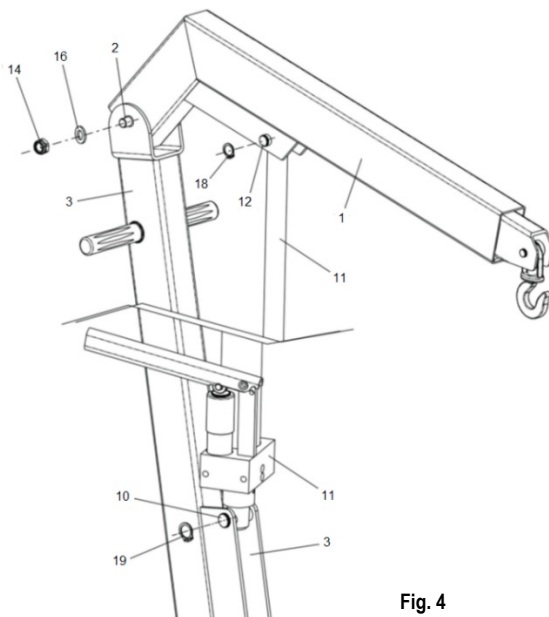

Fig. 4
3. Assemble the jib (1 – Fig. 4) with the frame (3 – Fig. 4) by means of the fixing pin (2 – Fig. 4), the nut (14 – Fig. 4) and the washer (16 – Fig. 4).
Assemble the cylinder unit (11 – Fig. 4) with the frame (3 – Fig. 4) by means of the fixing pin (10 – Fig. 4) and the retaining ring (19 – Fig. 4).
Assemble the cylinder unit (11 – Fig. 4) with the jib (1 – Fig. 4) by means of the fixing pin (12 – Fig. 4) and the retaining ring (18 – Fig. 4).